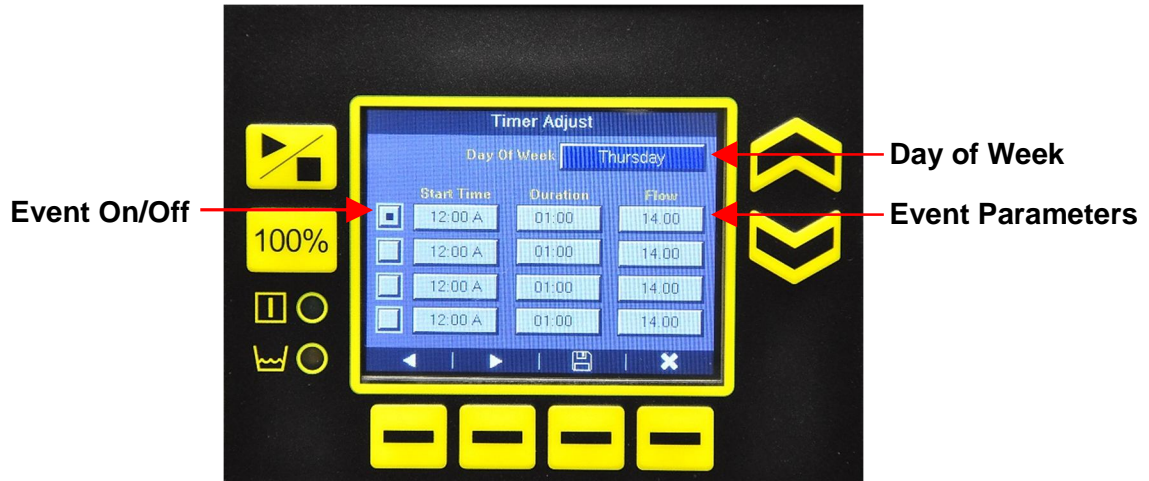

Figure 10: Timed Event Adjust
Before programming, ensure that the Time/Day settings in the pump are correct. (Navigate to **Settings – Time/Day** to update.) From the timed event home screen press the **Up** or **Down** buttons to enter the timed event adjust screen (Figure 10).
1. Press **Left** and **Right** to navigate and the **Up** and **Down** buttons to set start time, duration and flow rate. Enter the parameters for as many as four events for each day of the week. The enable/disable column on the left allows multiple choices to be entered (Figure 10).